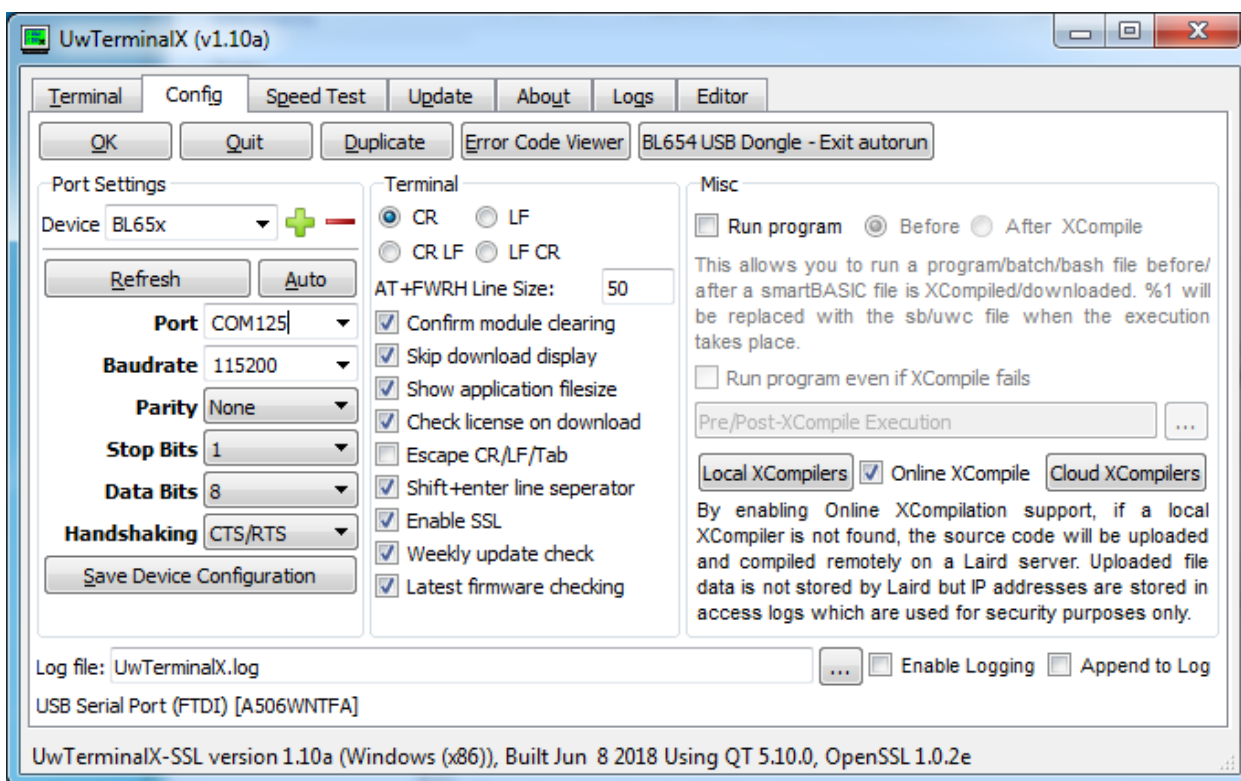

Figure 2: UwTerminalX Settings
- If you cannot select *BL654PA*, manually select the following UART settings (shown in Figure 2):